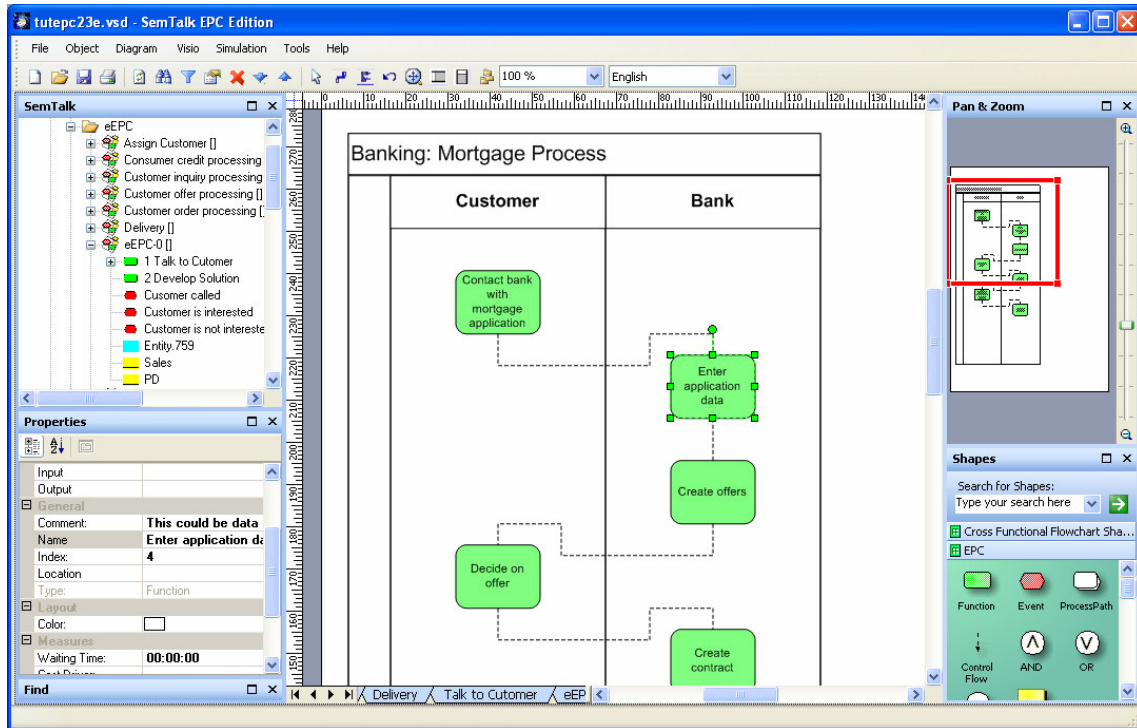

Figure 44: SAP Solution Composer (2)
| Figure 44: SAP Solution Composer (2)..... | 48 |